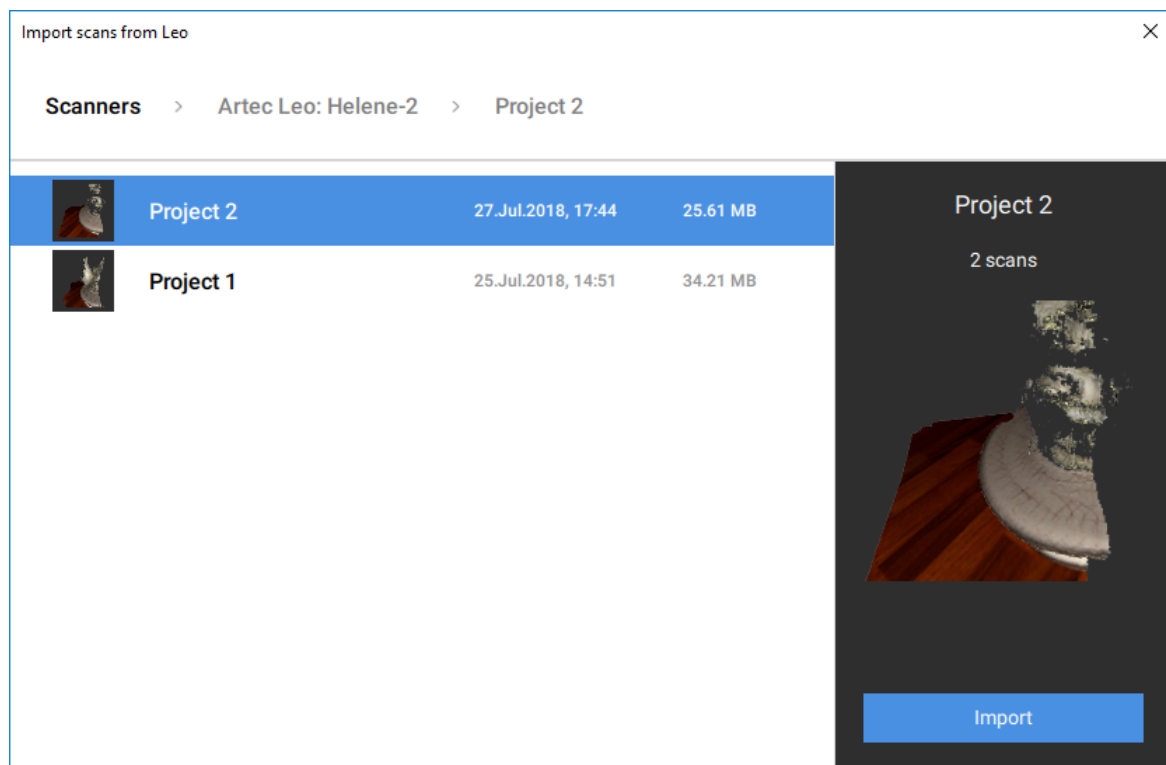

Figure 53: Dialog for selecting Leo projects to import.
4. Then using either LKM or ↑ and ↓ select the project that you want to load (Figure 53)